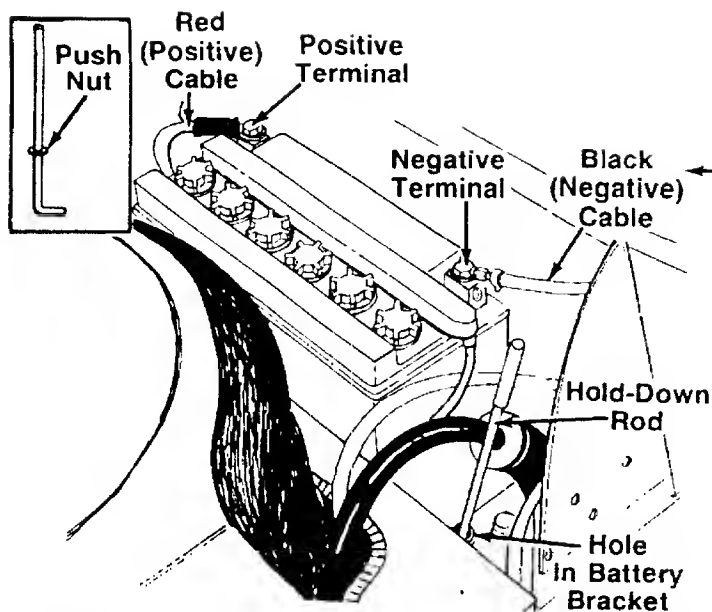

FIGURE 6.
2. Attach one push nut to each battery hold-down rod. See figure 6, inset. Hook one hold-down rod into the holes in the battery plate which will be on each end of the battery. Slide the push nut down the rod, against the battery plate.
3. Place the battery in the lawn tractor so that the positive terminal is facing the right side of the unit. See figure 6.
4. Slide the hex nut (provided with battery hardware) into the positive (+) terminal. Place the positive cable on the positive terminal. Secure with bolt provided. See figure 6.